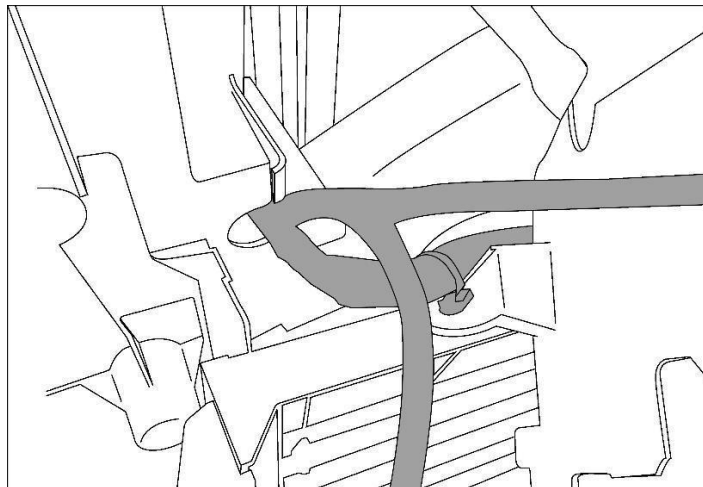

Figure 9
11. Once both harnesses are out of their looms, apply new loom to them separately. Retape the joints and ends as shown. (Fig. 9)